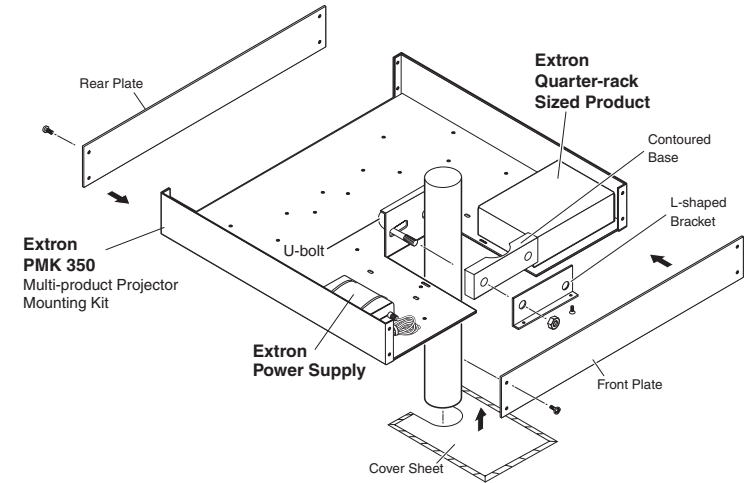

Figure 2-7 — PMK 350 projector mounting a transceiver
- Remove the front and back plates from the PMK 350 (figure 2-7), using an Extron Tweezer or a #2 Philips screwdriver. Retain the screws to reattach the plates when you are finished.
- Place the PMK 350 around the projector ceiling mounting pole (figure 2-7, above).